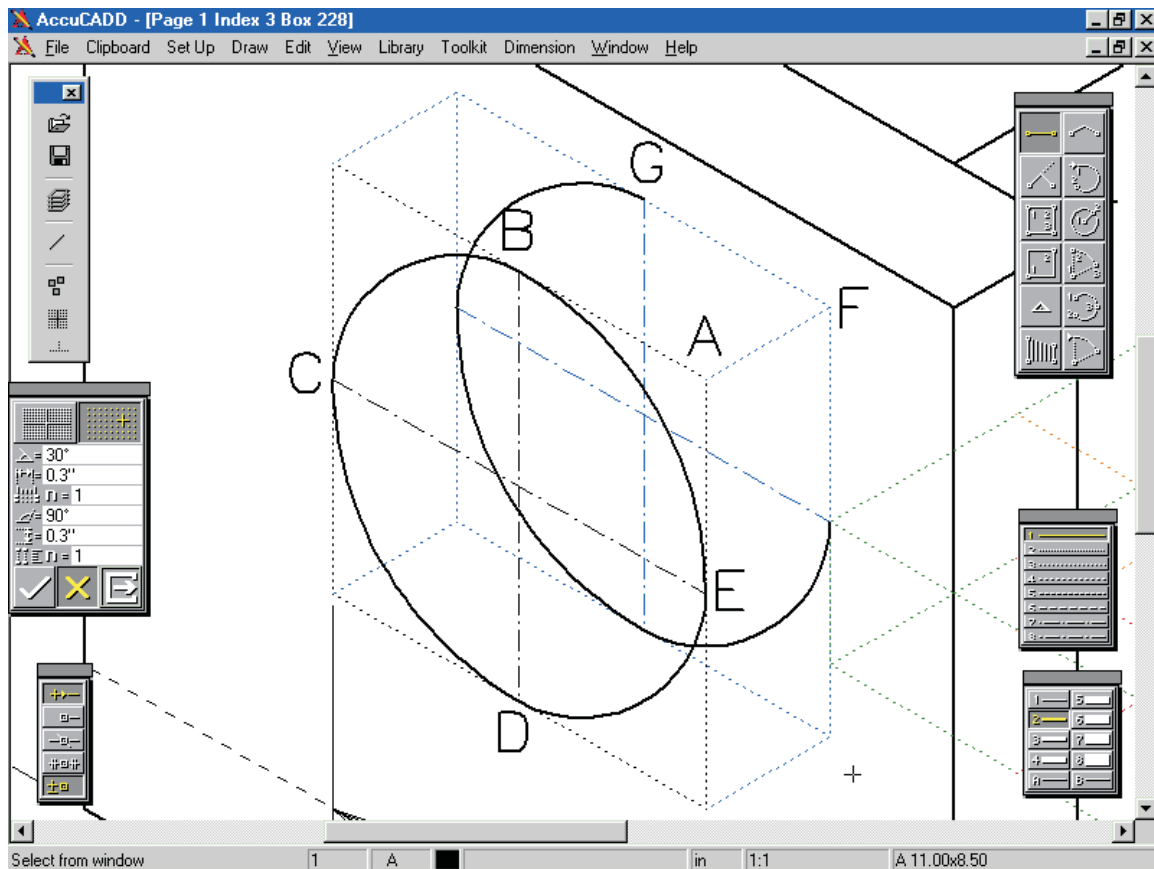

Figure 62: Part ellipse, before trimming
- Still with the arc selected, again select Line Direction from the Toolkit menu. Touch F, followed by G, then draw the second ellipse as Figure 62. (You need only three arcs this time.)